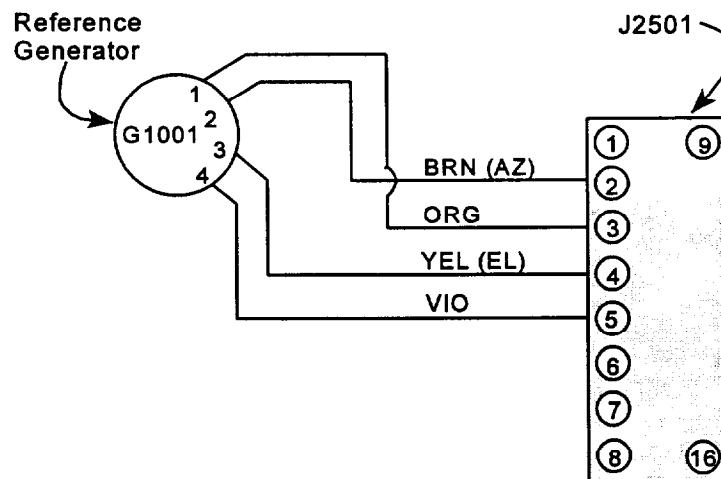

Figure 3
4. If any of the above tests fail, verify elevation assembly wiring with the wiring diagram in Figure 3.